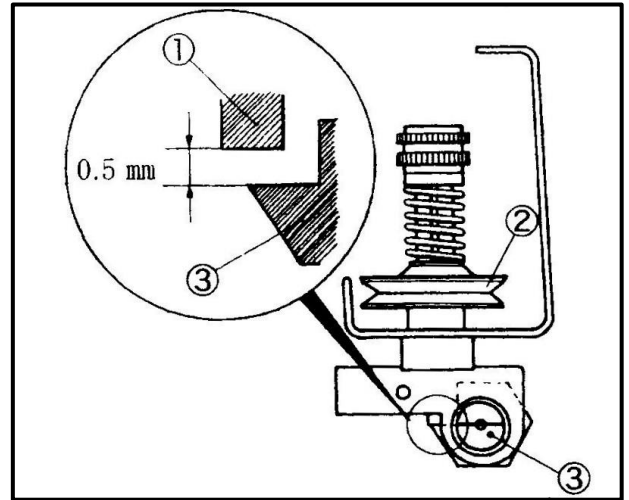

Fig.9
As standard, make the clearance between the tension release pins ① and the tension release shaft ③ to 0.5mm when six tension release pins ① are pushed up slightly and the upper thread tension disc without pressing the presser foot pedal. (Fig.9)
(2) Turn the tension release shaft ③ with a screwdriver.(Fig. 9)